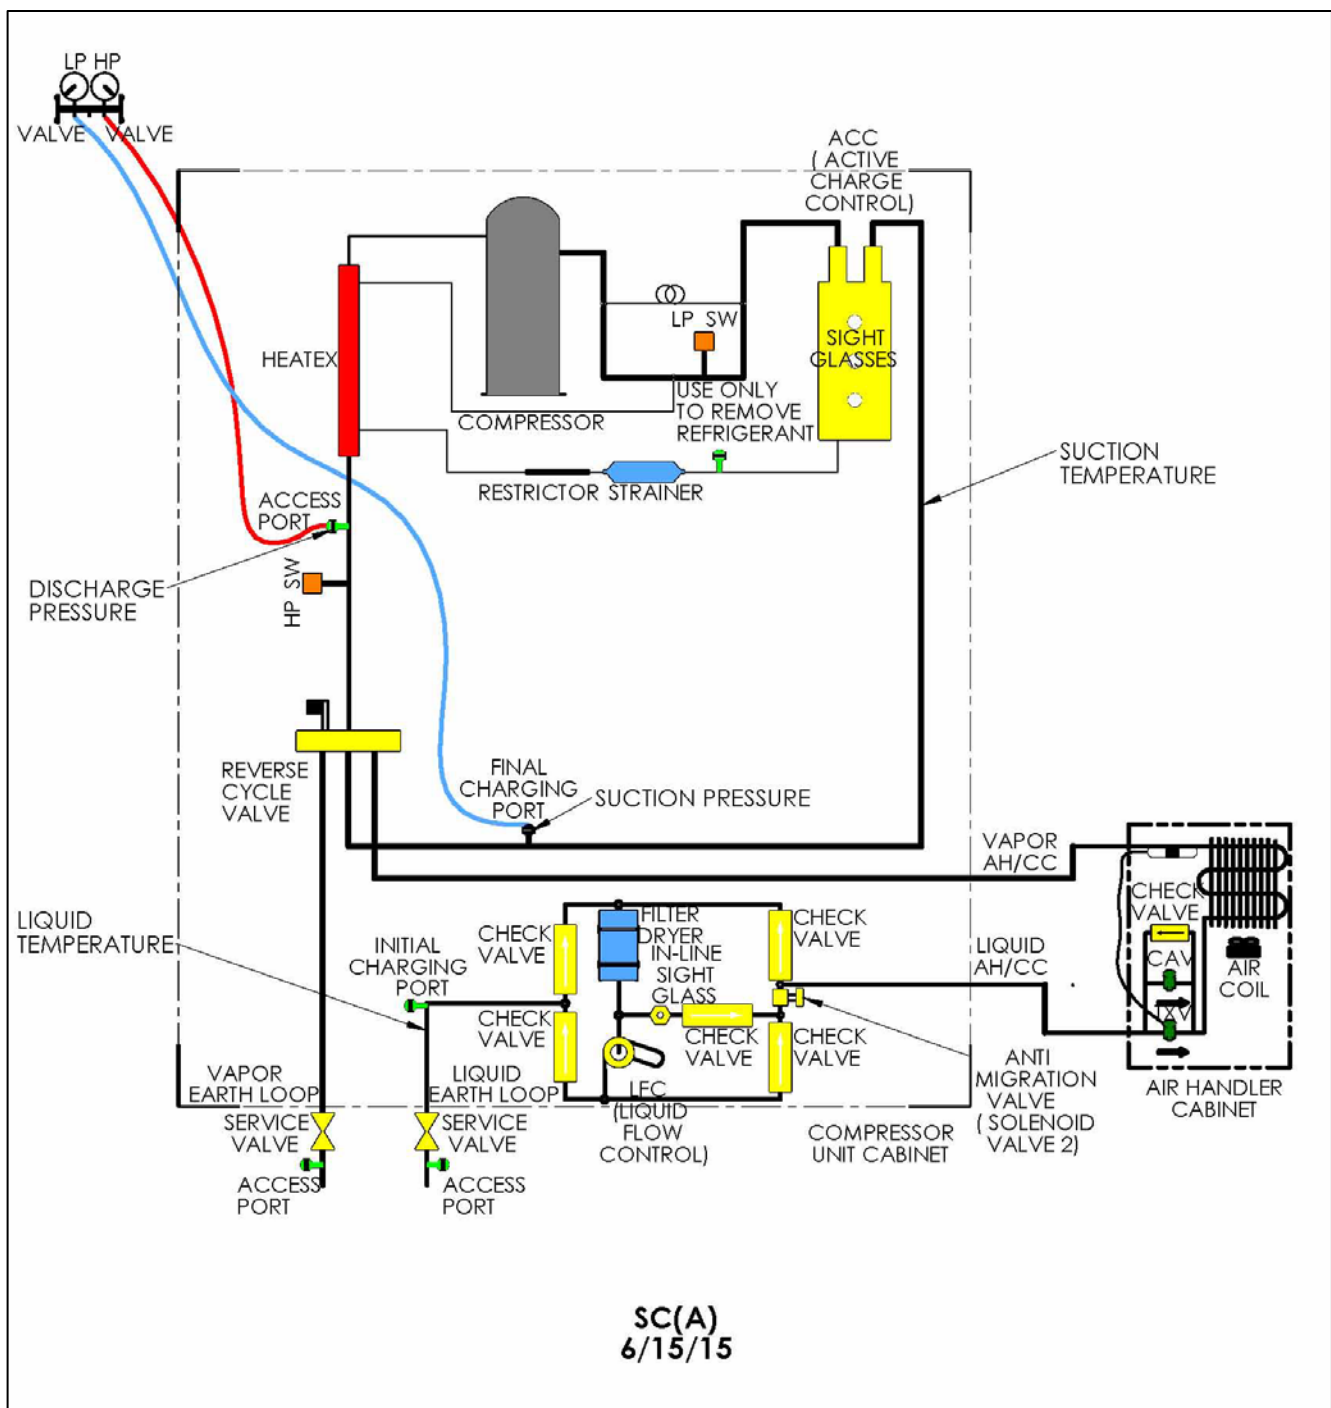

Figure 31. Pressure and Temperature Measurements
1. Start the system in cool mode and monitor the suction pressure on the LP gage as shown in Figure 31. The following steps will indicate when the CAV (Cooling Assist Valve) closes. **Do not adjust the CAV!**
2. After suction pressure stabilizes, monitor the increasing compressor discharge pressure at the HP gage as shown in Figure 31.
4. CAV closure is to be verified by checking the temperature of the earth loop liquid line just inside the compressor unit, as shown in Figure 31 **if this liquid temperature is 100°F or above, the CAV is closed.**
11. After adjusting for subcooling, reconnect the high side hose to the discharge access port as shown in Figure 31 and monitor discharge pressure. If refrigerant was recovered to adjust subcooling, the discharge pressure could have dropped to less than 320 psig, reopening the CAV. If so, allow the system to run for a period of time until the discharge pressure is 320 psig or higher, and the suction pressure is 120 psig or higher. Check the liquid line temperature again to ensure that is 100°F or higher. When these conditions are achieved, the superheat is to be checked.
13. After the system has run for 20 minutes, attach a temperature clamp or probe securely on the inlet line to the ACC in the location shown in Figure 31. Insulate from the surrounding air. Read this as the suction temperature.
14. Read the suction pressure at the final charging port, on the LP gage, as shown in Figure 31.